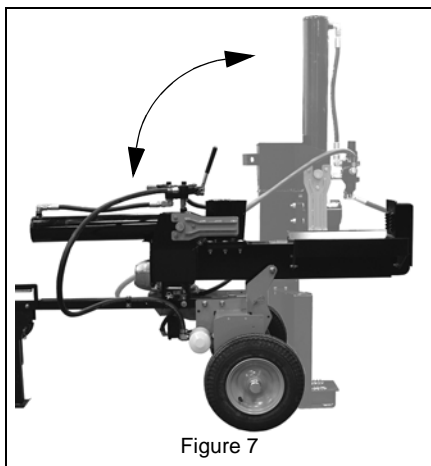

Figure 7
3. Lift beam until it rotates to vertical position (Figure 7).